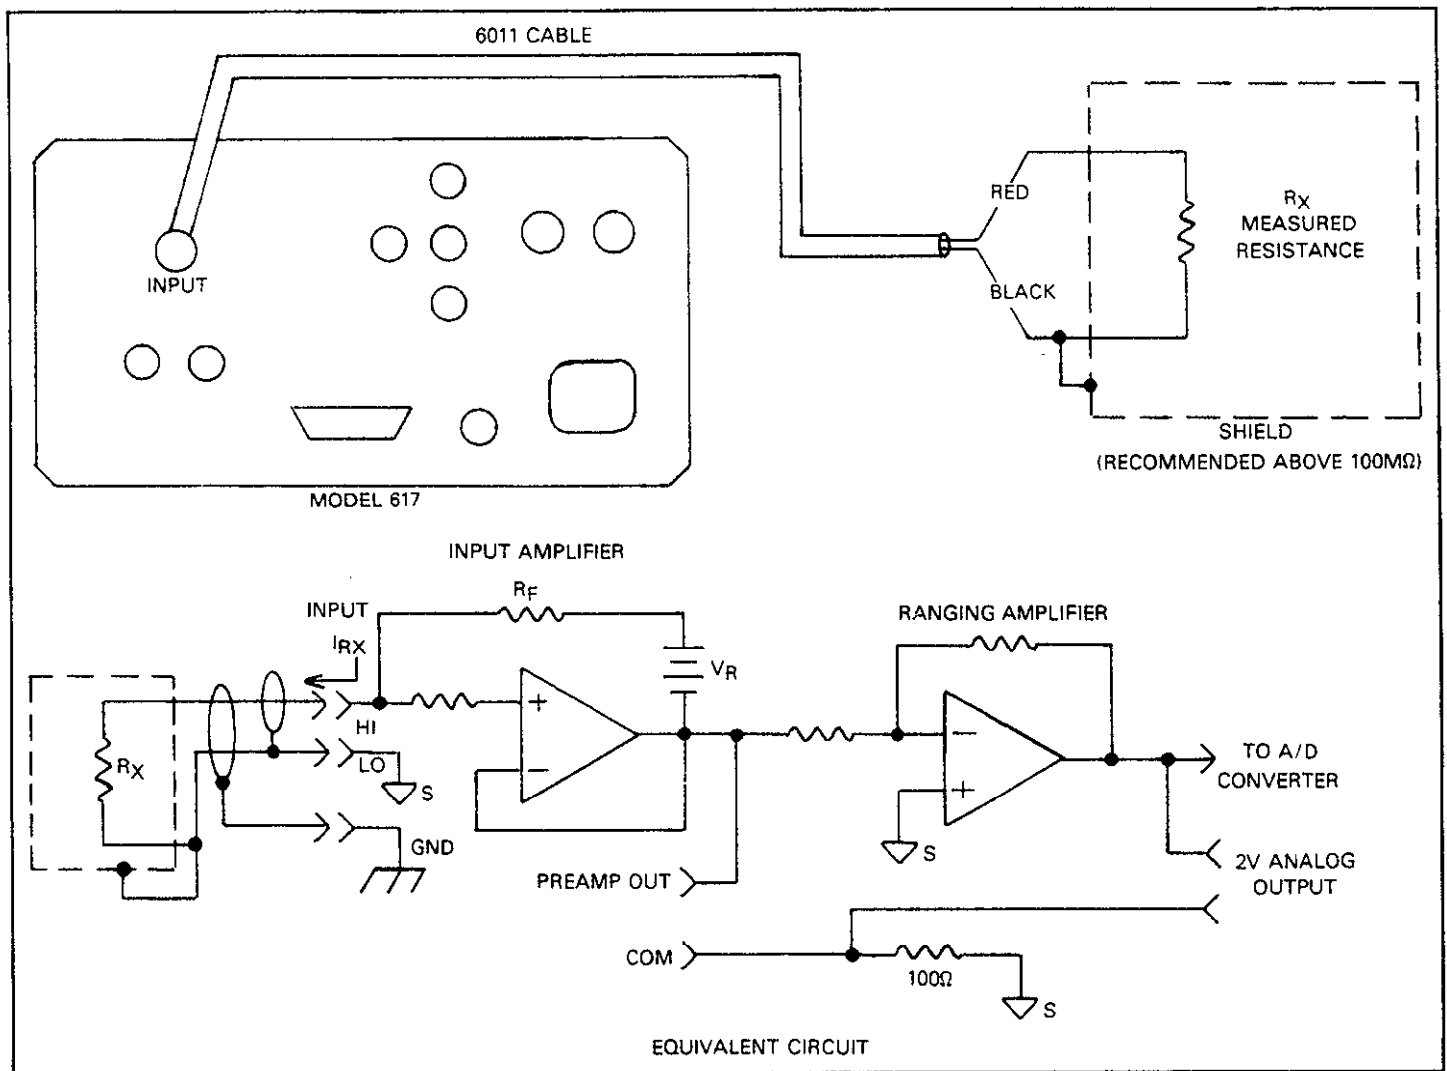

Figure 2-12. Resistance Measurement Connections
5. Connect the Model 6011 or similar cable to the INPUT jack. Keep the cable as short as possible to minimize the effects of cable capacitance. Connect the other end of the cable to the resistance to be measured, as shown in Figure 2-12. For measurements above $1\text{G}\Omega$, it is recommended that you use guarded connections, as described in paragraph 2.7.4.